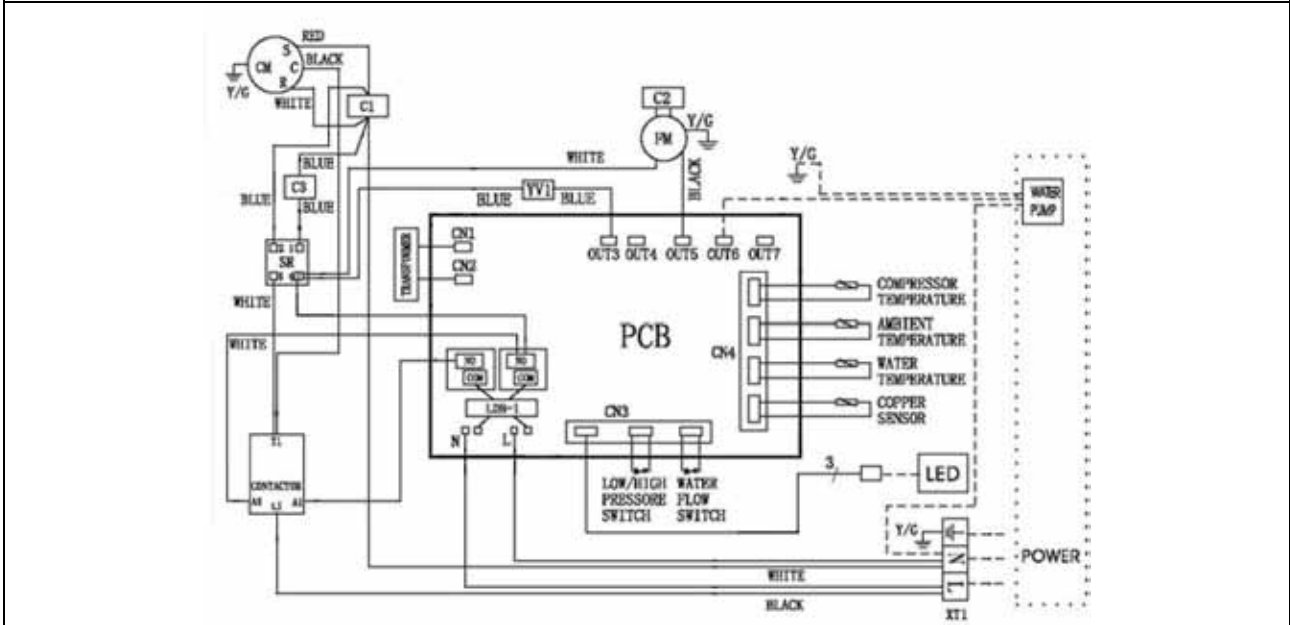

Figure 10: Wiring diagram.
- ⚠ **Electrical connections must be performed as illustrated in the wiring diagram in Figure 10.** Power voltage must not vary more than 10 % from the nominal value. It must be within the 207÷253 [V] interval. If power voltage is subject to frequent variations, contact specialised technicians for suitable protection devices.